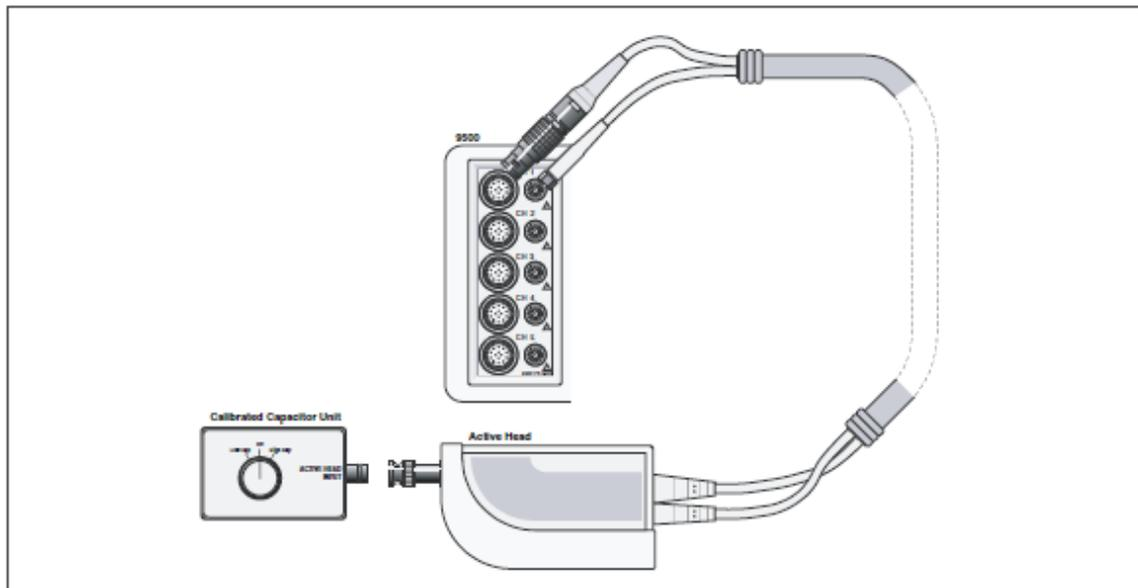

Figure 12. Load Capacitance Measurement Function Verification — Interconnections
3. Connections: Ensure that the 9500B is connected to the Capacitance unit (or individual capacitors in turn) as shown in Figure 12, and that both instruments are powered on and warmed up.